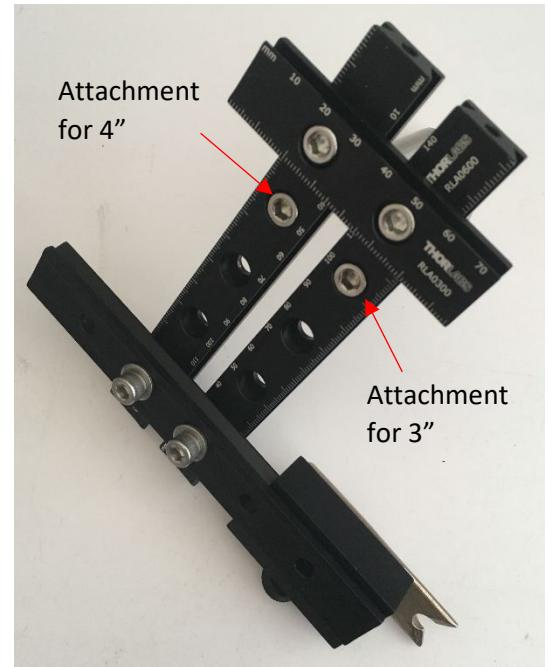

Figure 12 Head-fixing assembly with optical posts attached
- Attach the bottom (the end with the 1/4"-20 hole) of the 3" graduated optical post to the right 6" rail using the hole closest to the 3" rail with a 1/4"-20x3/8" screw. See Figure 12 for the results of this step.